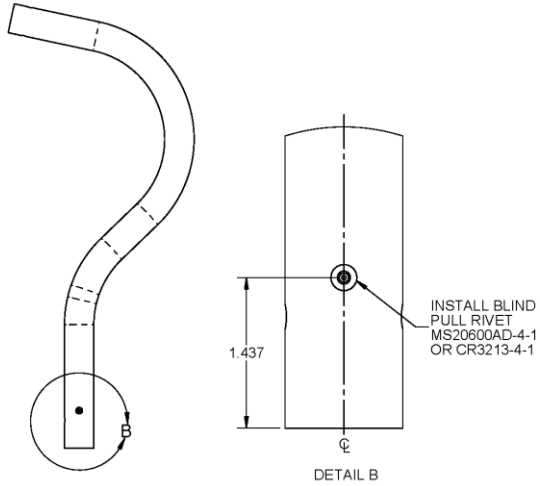

Figure 3: Rivet Installation
1. Install one MS20600AD-4-1 or CR3212-4-1 in pre-drilled hole, as shown in Figure 3.